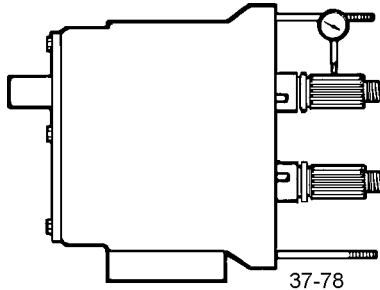

Figure 29 - Check bearings
- Check the bearings with a dial indicator for shaft radial play (Figure 29). If the deflection is equal to or greater than the rotor-to-body diametrical clearance (“Checking for Proper Clearance” on page 41), replace the bearings.